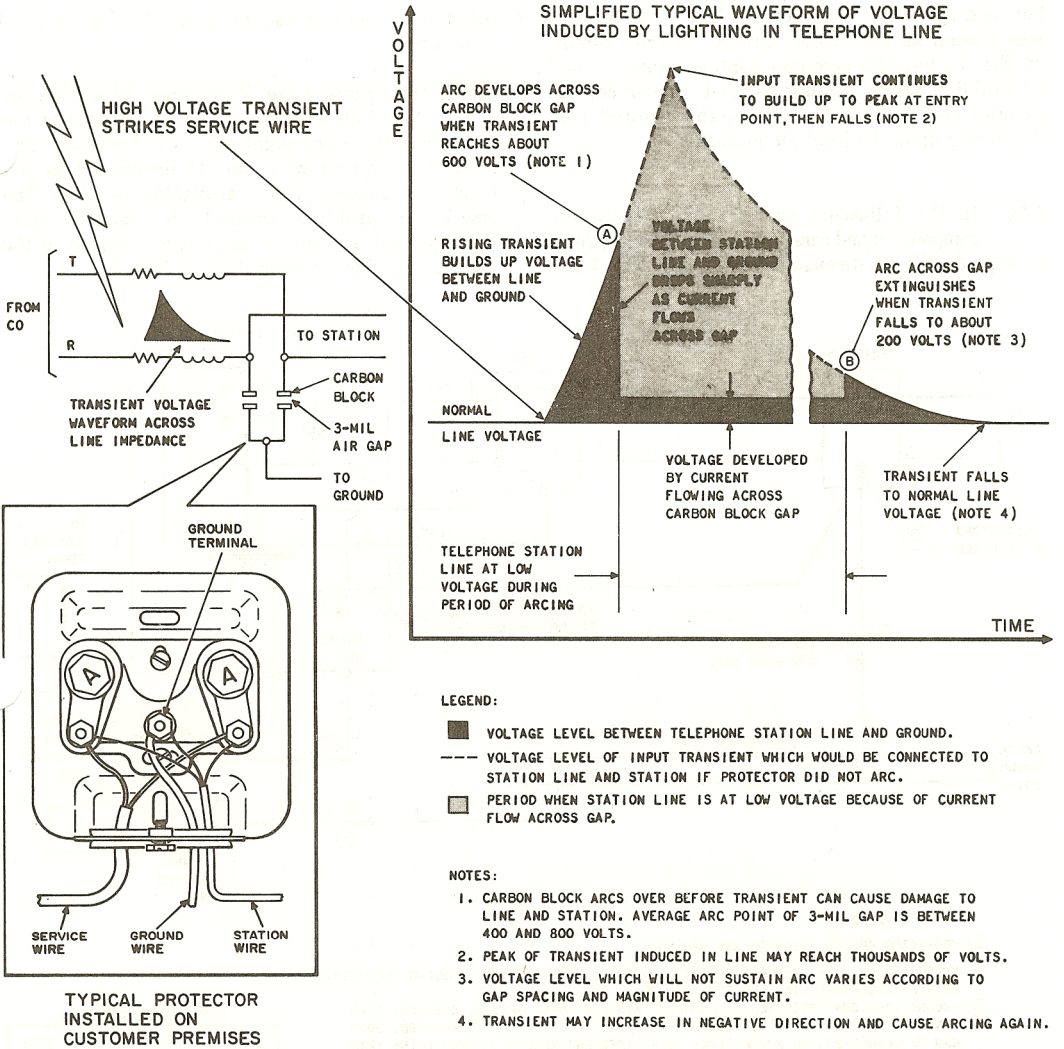

Fig. 2—Carbon Block Action on Telephone Line Hit by High-Voltage Transient
**3.02** The effect of a protector with 3-mil carbon blocks on a typically high-voltage waveform is illustrated in Fig. 2. The blocks operate on either positive or negative voltage peaks that exceed the firing point of the gap (approximately 600 volts in this example).
**3.03** The waveform in Fig. 2 can represent any high-voltage condition that can develop on telephone lines, for example, lightning surges, switching transients, power crosses, etc. In any case, the carbon blocks arc over as the voltage level reaches point A. The current flow associated with the foreign voltage will be shunted to ground via the arc path; the voltage on the station telephone line, with respect to the protector ground terminals, will be equal to the voltage drop across the carbon blocks (usually less than 50 volts). These conditions will be maintained, as illustrated by dark shading, until the voltage is reduced to the level indicated by point B. In other words, the arc is sustained